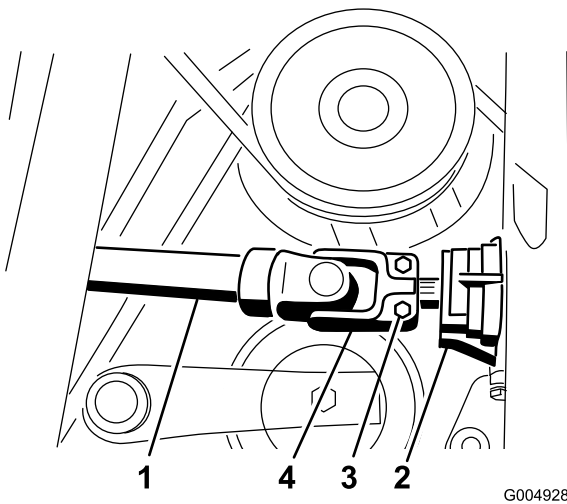

Figure 90
34. Slide the drive shaft onto the gearbox shaft (Figure 90). Install the roll pin and torque the bolts to 175-225 inch pounds.